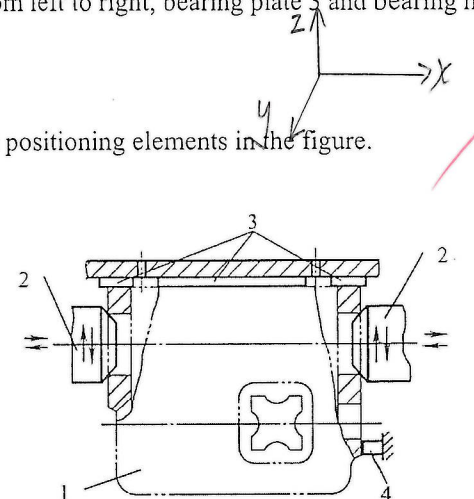

Figure 1
6. Figure 1 shows the positioning condition of transmission case 1. The positioning element consists of two taper pins 2 both movable from top to bottom and from left to right, bearing plate 3 and bearing nail 4.